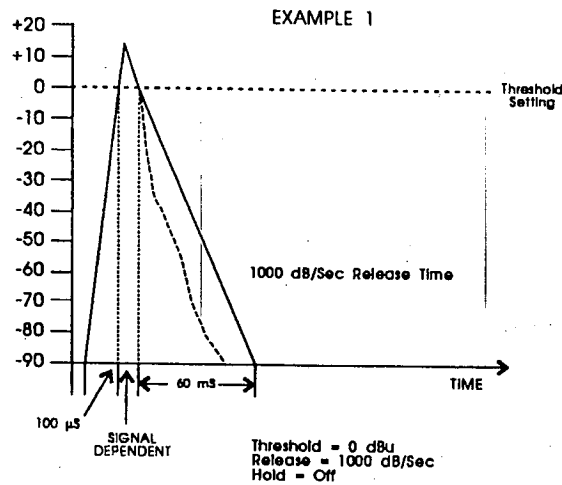

Figure 11: Operation with Snare Drum or Kick Drum
**Example 1:** With the THRESHOLD setting around +10dB, and the HOLD control set to the OFF position, and the RELEASE control set around 1000dB/S, the input to the 363X is less sensitive to nearby signals that would cause the gate to open or to "chatter." Once a signal falls under the threshold, the fast release setting will enable the gate to close very quickly. This would be a suitable setup for use with a snare drum or kick drum where the initial transient gets through, and due to the quick delay time of these types of instruments, the gate closes almost immediately (see Figure 11). This is actually an effect that is used quite often in the studio to tighten-up a drum track. These particular settings would not work for a crash cymbal or a piano which are instruments that inherently have a certain amount of sustain and decay past the initial transient.